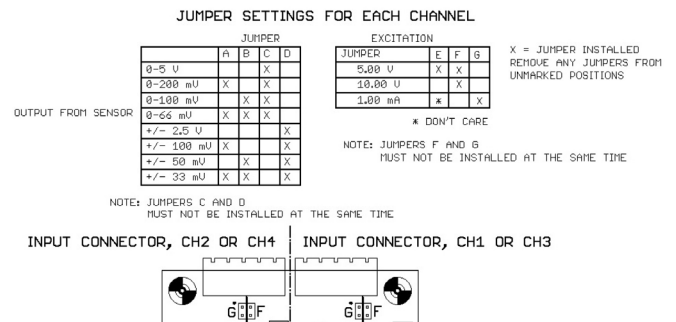

Figure 4 Typical Input Connections
Refer to figure 3 for the jumper locations and figure 4 for typical sensor wiring connections.
5. Determine the required electrical connections for the sensor. Refer to the sensor manufacturer's data and figure 4 below.
The sensor connections are shown in figure 4-A
The input connections are shown in figure 4-B
The transducer requires milliamp excitation. Install jumper G. Do not install a jumper at F. The output of the sensor is ratiometric to the supply current and is rated at 100 millivolts output for a 1.5 mA excitation. Since the excitation current is fixed at 1 mA the sensor output will be $1/1.5 \times 100 \text{ mV} = 66 \text{ mv}$. Install jumpers A and B. The sensor connections are shown in figure 4-A.
Refer to figure 4 for the proper input connections from the sensor. The pin functions are:
The wires from the sensor are connected via screw terminals to a detachable plug. There is one plug for each channel. If a channel will not be used and there is no sensor connected to it, connect short wire jumpers from S+ and S- to E-. This will prevent electrical noise from interfering with other channels or damaging the readout. **DO NOT CONNECT A JUMPER TO E+.** See figure 4-D.